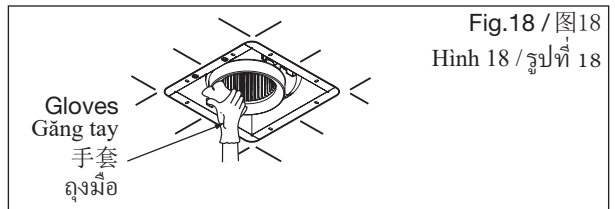

Fig.18 / 图18
- ④ Wipe the dust off the fan body with a soft cloth moistened with kitchen detergent, and then clear it with a clean soft cloth. (Fig.18)
使用软布沾上厨房用洗涤剂后擦掉扇叶上的污物，再用干净软布擦净 (图18)。